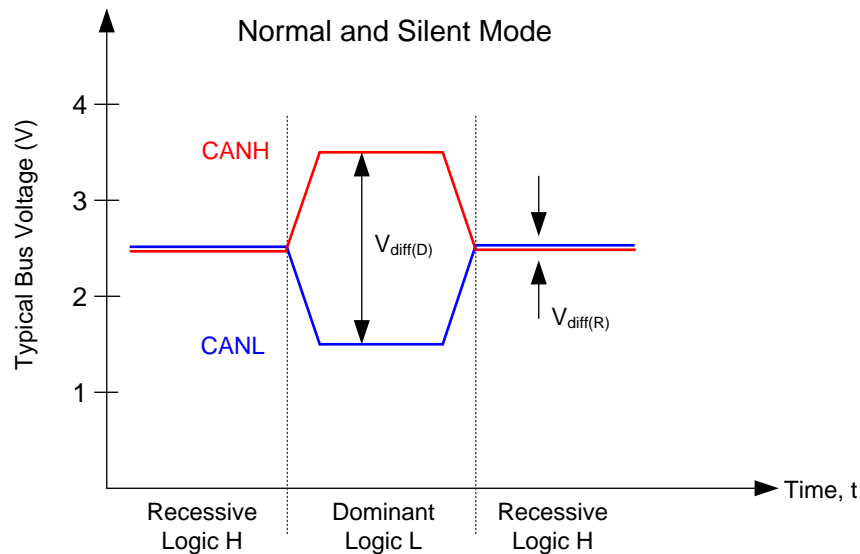

Figure 13. Bus States (Physical Bit Representation)
- (1) H = high level, L = low level, X = irrelevant, Z = common mode (recessive) bias to $V_{CC} / 2$. See Figure 13 and for bus state and common mode bias information.
- (2) Devices have an internal pull up to V_{CC} or V_{IO} on TXD terminal. If the TXD terminal is open the terminal will be pulled high and the transmitter will remain in recessive (non-driven) state.